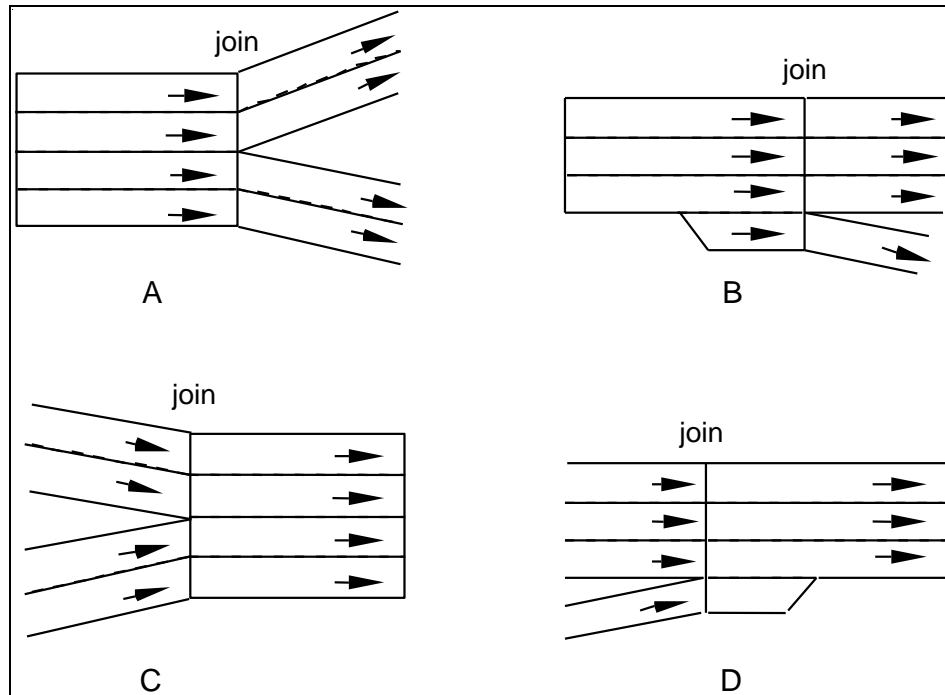

Figure 21 Examples of joins
Joins often model bifurcations (A), exit ramps (B), mergings (C), and entrance ramps (D). Figure 21 shows how these various situations can be modelled.